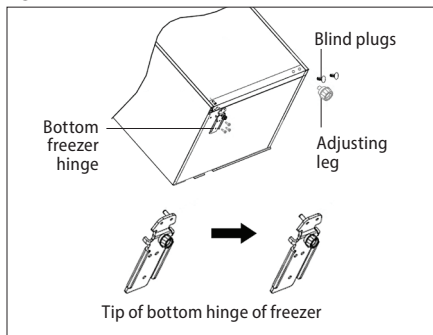

Fig. 3
5. Remove the blind plugs and the bottom hinge of the freezer together with the screw (adjusting) leg (Fig. 3).
6. Move the tip for fixing the freezer door to the other side of the freezer bottom hinge (Fig. 3). Install the freezer bottom hinge on the other bottom side of the unit together with the screw (adjusting) leg as shown in Fig. 3.